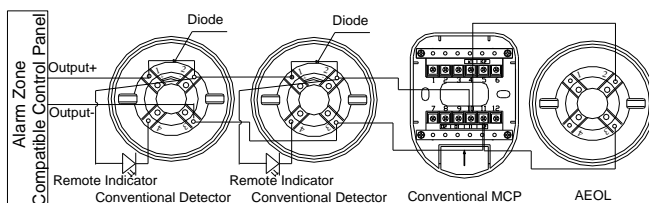

Fig. 4
2) When the AEOL is used alone, the system connection is shown in Fig. 4